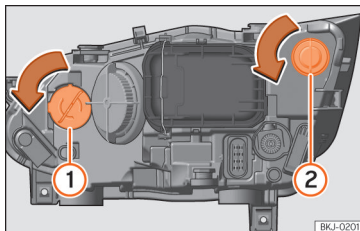

Fig. 56 In the engine compartment: turn signal light bulb ① and DRL (daytime running light) bulb ②.
- Turn the bulb holder »» Fig. 56 ① or ② to the left and pull.